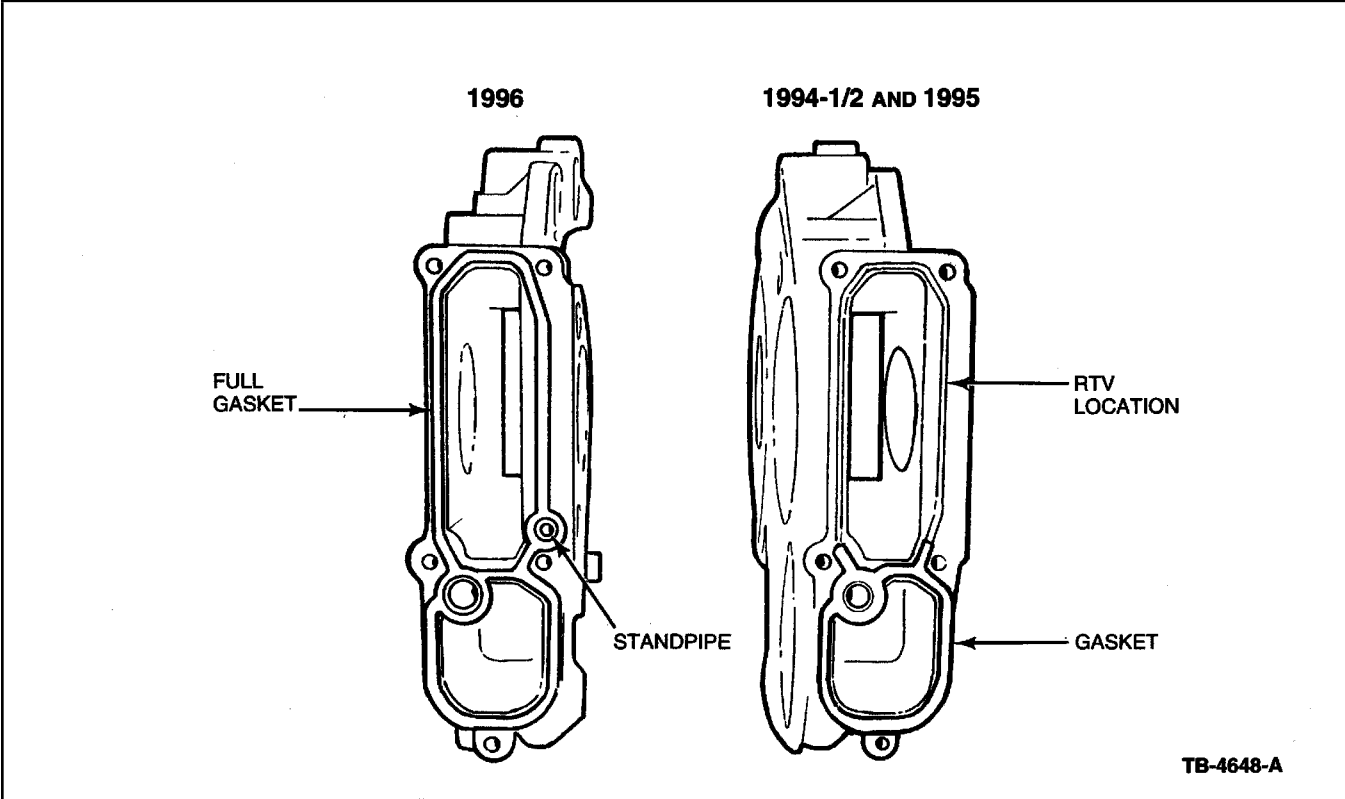

Figure 6 - Article 96-11-13
- New reservoir-to-front cover gasket which replaces RTV. Figure 6.